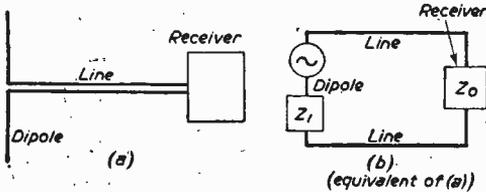

Fig. 9.—Normal television aerial feed and its equivalent circuit.
**B**OTH in television transmission and reception it is necessary to make use of matched transmission lines for optimum transfer of signal. A receiving aerial can be thought of as a generator—it has a current induced in it by the incoming signal. It has its own impedance (about  $72\Omega$  at the centre of a normal dipole). Therefore, a cable having this value as its characteristic impedance is used to obtain the maximum transfer of power from dipole to the cable. Fig. 9 shows the scheme.